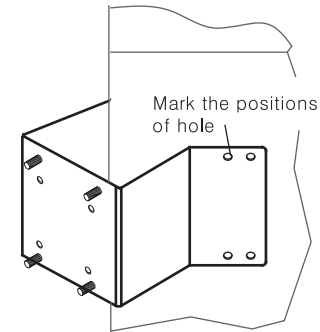

FIG.3
- b-1. First mark the positions of holes placing the corner mount bracket. (FIG.3)